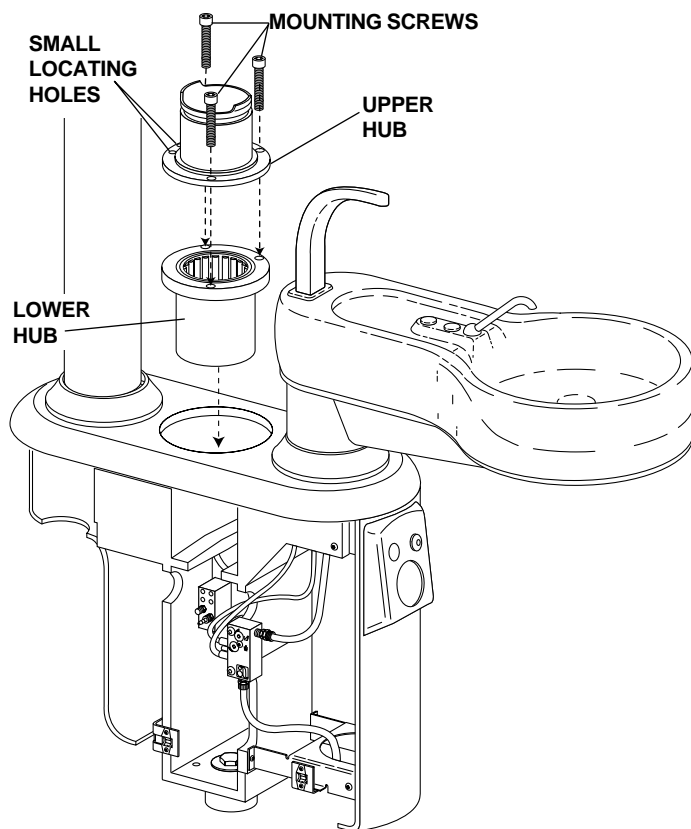

FIGURE 7
1. Position the lower hub in the post box (see *Figure 7*). Line up the mounting holes in the hub assembly with those in the post box frame.
2. Position the upper hub in the post box (see *Figure 7*) making sure to install the small locating holes toward the toe of the chair. Line up the mounting holes in the hub assembly with those in the post box.